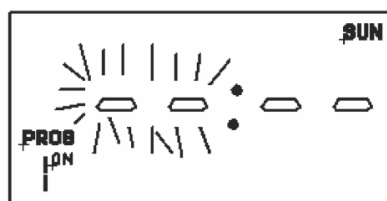

Figure B-10: Setting 'ON' / 'OFF' times (Sunday)
7. Set ON/OFF times as before. Press 'PROG' to move to the next linked day (SUN follows the SAT automatically). Refer to Figure B-10.